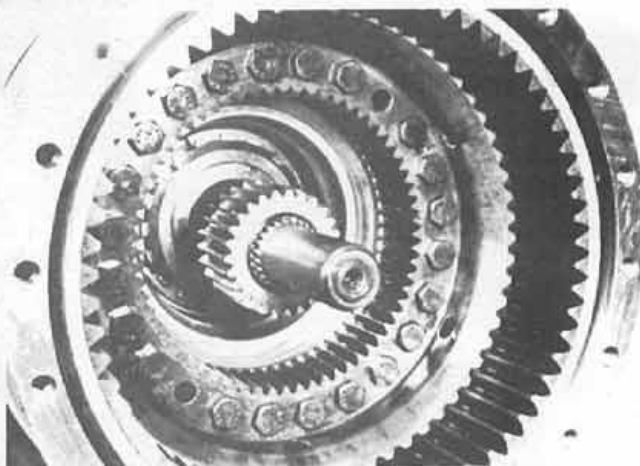

Figure 6
**Step 5** Remove axle shaft and sun gear. The axle will slide out of the center section freely. There is no fastener on the axle in the center section. (See figure 6).